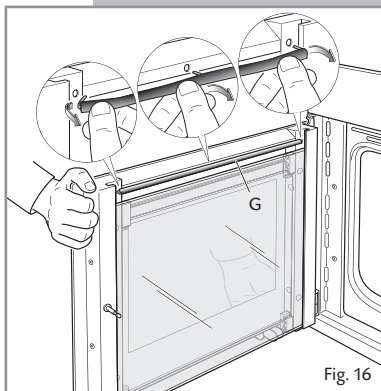

Fig. 16
- Remove the seal **G** by unhooking the no. 3 fixing hooks (fig. 16).